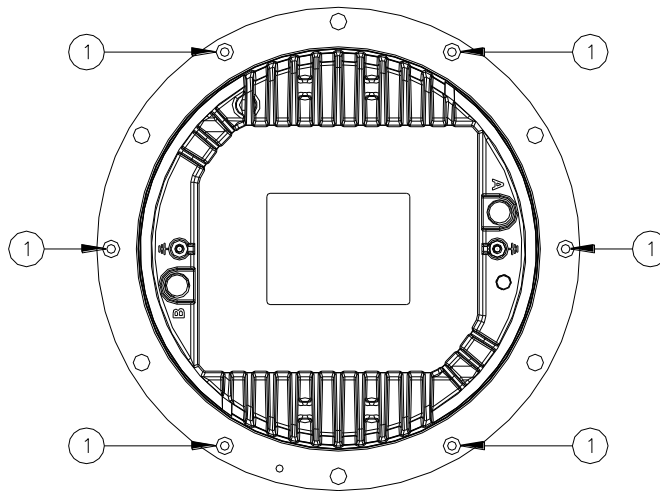
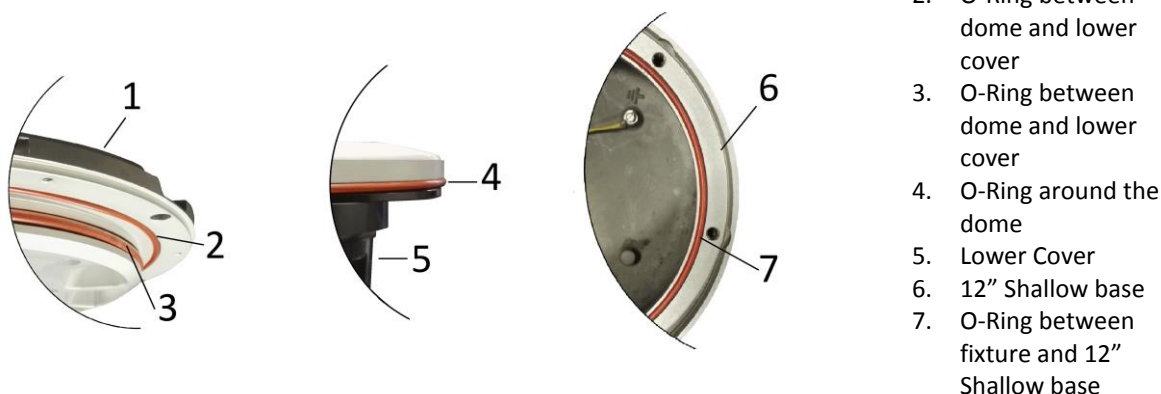

Figure 16 - Lower Cover Fixing Screws
Figure 18 – Fixture Gaskets
- Open the fixture by unscrewing the six locking screws flat CSS TORX M5x10 (Figure 16 - n°1).
- six locking screws flat CSS TORX M5x10 (Figure 16 - n°1);
- O-Rings between dome and lower cover (Figure 18 – n°2 and 3);
Verify the correct position of the two O-Ring between dome and lower cover (Figure 18 – n°2 and 3); mount the lower cover on the dome and fasten it by means the six screws flat CSS TORX M5x10 (Figure 16 - n°1). One drop of anaerobic adhesive lower type (e.g. LOXEAL 24-18) should be applied to the screws before installation; tightening torque is 2.5 Nm.
- O-Ring around the dome (Figure 18 – n°4);
- O-Ring between fixture and shallow base (Figure 18 – n°7);